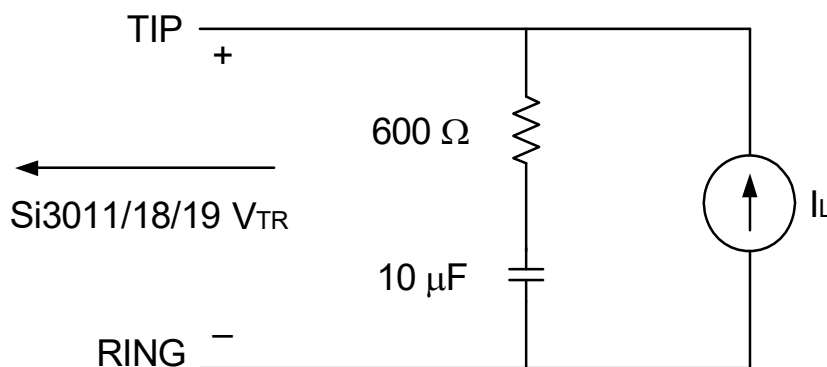

Figure 1. Test Circuit for Loop Characteristics
($V_D = 3.0$ to 3.6 V, $T_A = 0$ to 70 °C, see Figure 1 on page 6)
1. Measured at TIP and RING with 600 Ω termination at 1 kHz, as shown in Figure 1 on page 6.